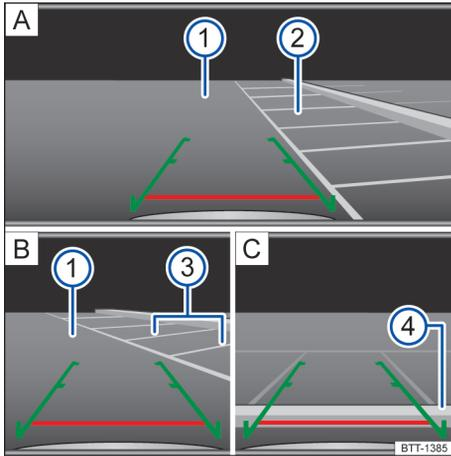

Fig. 118 On the screen: Orientation lines for the parking space behind the vehicle.
Key to fig. 118:
- Position the vehicle in front of the parking space → fig. 118 ② **A**.
- Shift into reverse (R).
- Slowly back up and steer so that the lateral green orientation lines lead into the parking space ③ **B**.
- Align the vehicle in the parking space so that the green orientation lines are parallel to the selected parking space ③ **B**.
- Stop the vehicle before (or at the very latest, when) the horizontal red line reaches the rear boundary, for example, a curb ④ **C**.